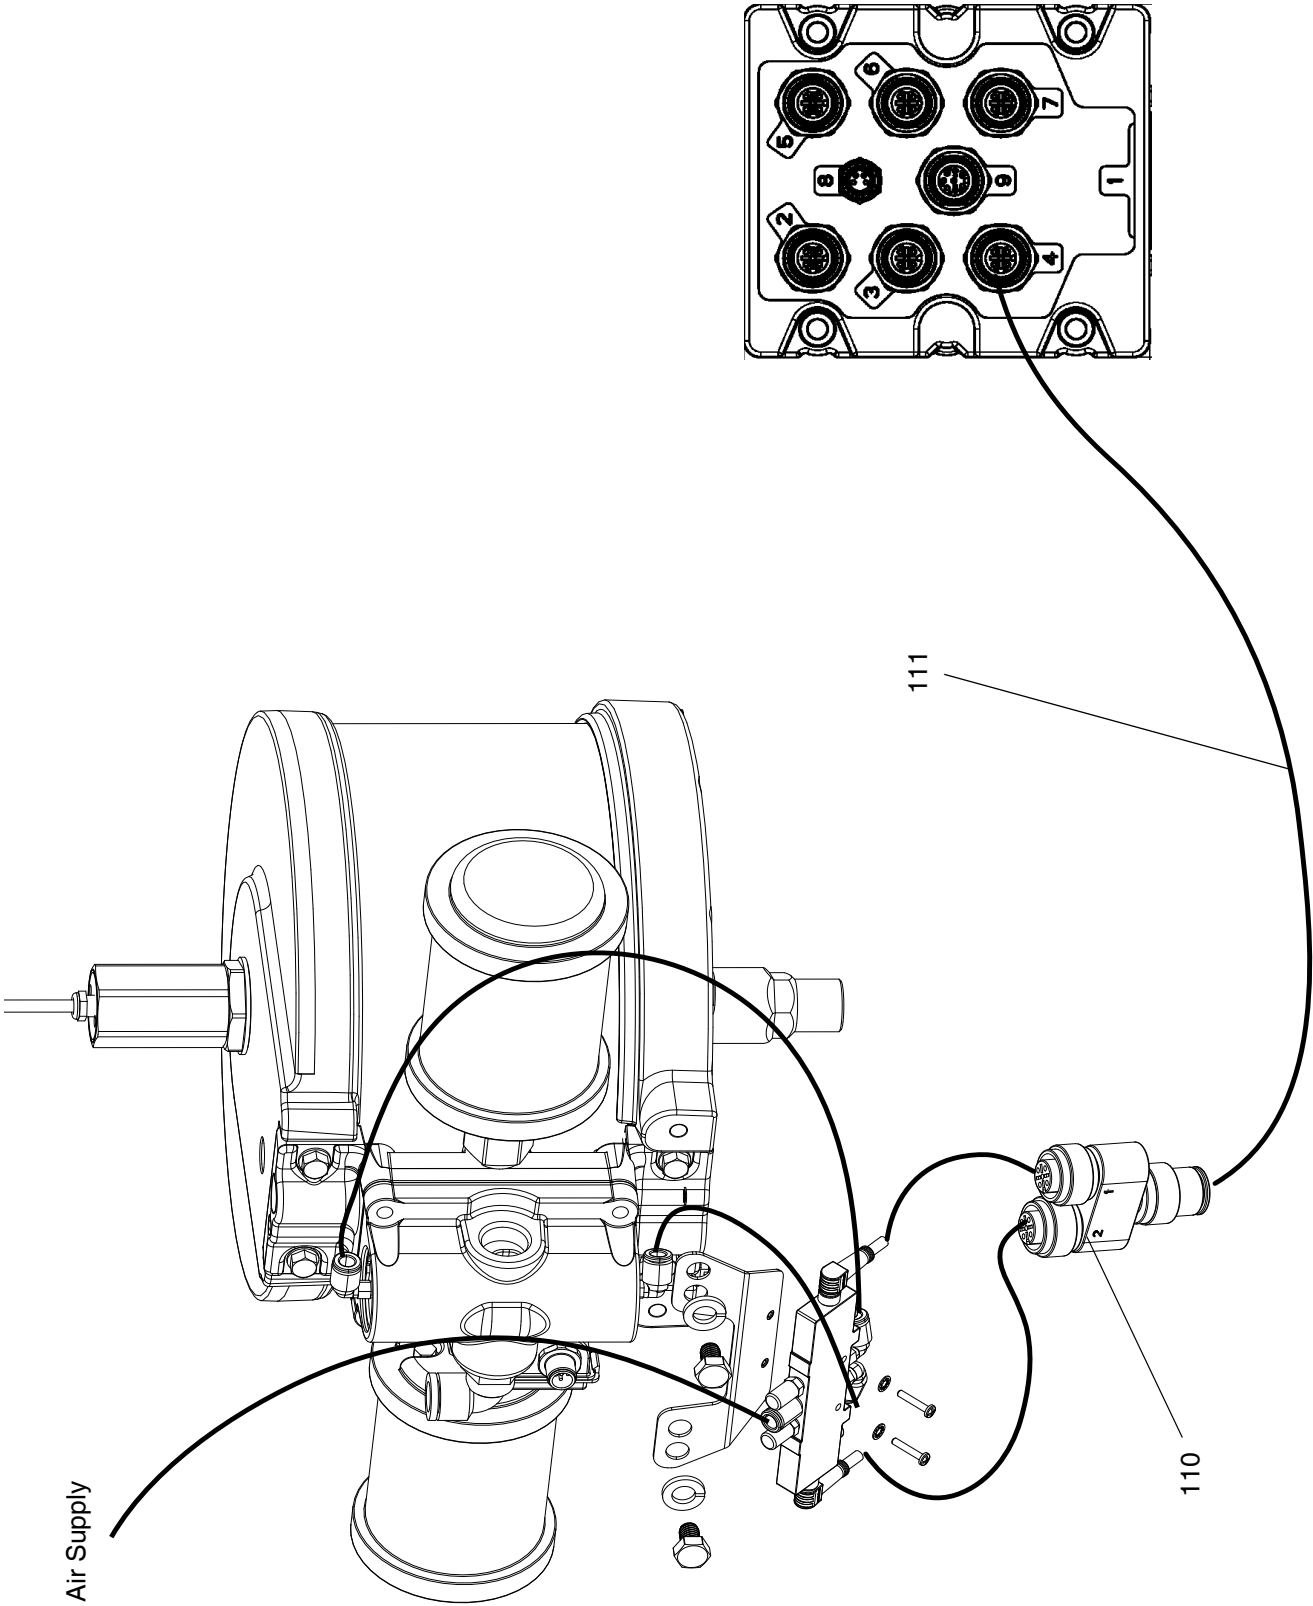

FIG. 18: Connect Cables and Air Line - NXT1800 and Smaller Air Motors
12. Connect cables and air lines as shown in FIG. 18. Cut air line tubes to length.